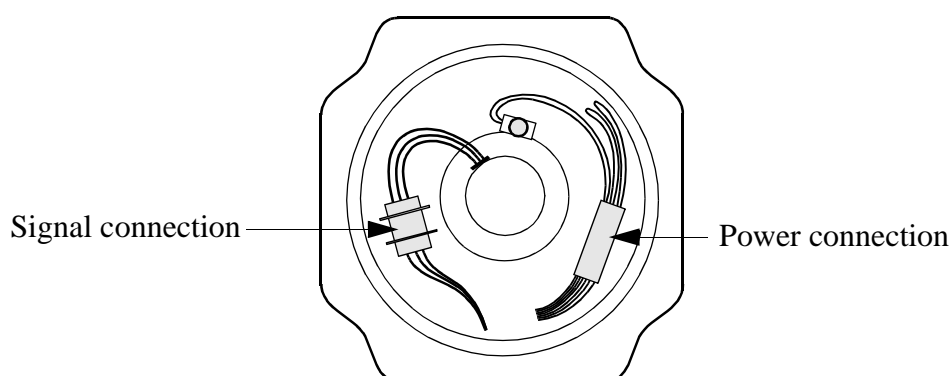

Figure 2 Cable routing in the motor unit.
- The cable routing is shown in Figure 2. Note that the signal connection and the power connection must not be entwined.